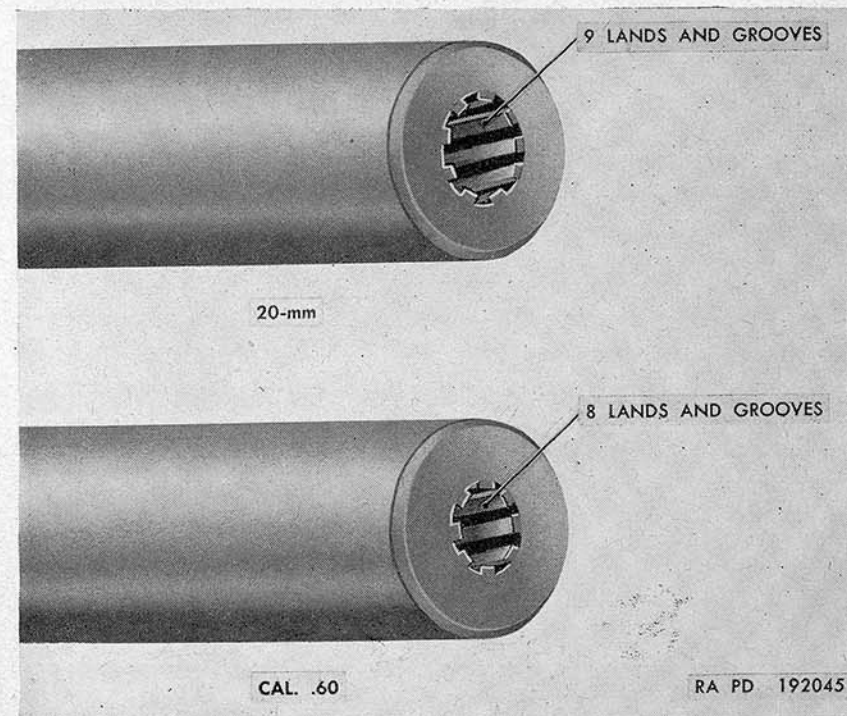

Figure 5. Comparison of tubes of 20-mm and cal. .60 guns.
b. *Tube* (fig. 5). The over-all length of the 20-mm and cal. .60 tubes is the same. However, the size of the bore on the 20-mm tube is larger than the bore of cal. .60 and contains nine lands and grooves as compared to eight for the cal. .60. The rate of twist of the grooves in cal. .60 is greater than that of the 20-mm gun; also the opening in the tube orifice, for the bleeding of gas from the tube, is larger in the 20-mm gun.